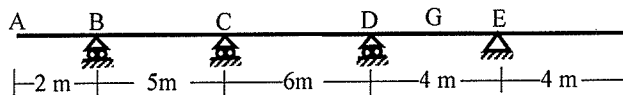

Figure 7
7.(i) Draw the qualitative influence lines of the beam shown in **Figure 7**,
(ii) Analyze the beam to calculate the maximum value of M_G , if the beam of **Figure 7** is subjected to a uniformly distributed dead load of 20 kN/m, moving live load of 30 kN/m and 150 kN concentrated load [Given: $EI = \text{Constant}$]. [10]